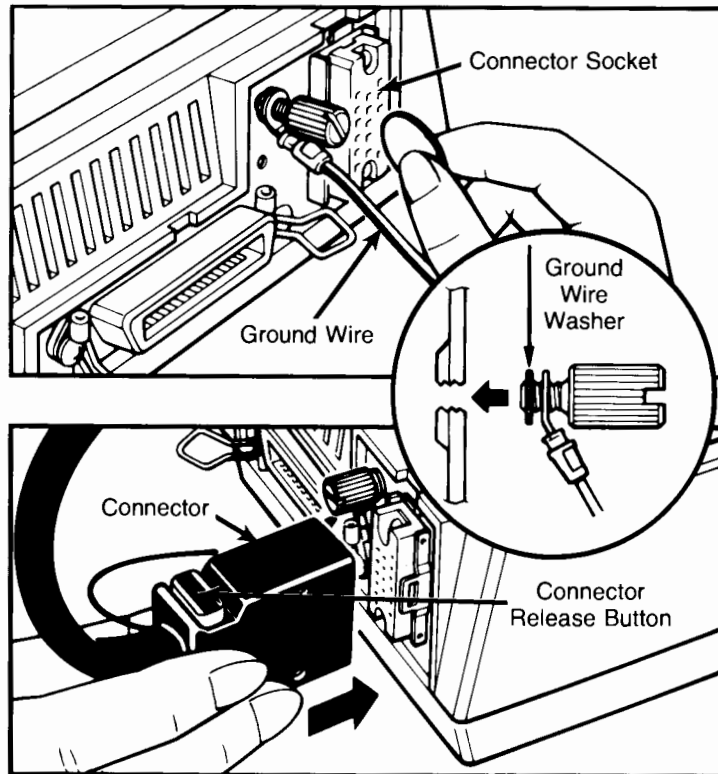

Figure 4-6. Connecting the ADF Cable
5. Remove the plastic connector socket cover, and attach the ADF connector ground wire to the scanner body. See Figure 4-6. Save the connector socket cover.